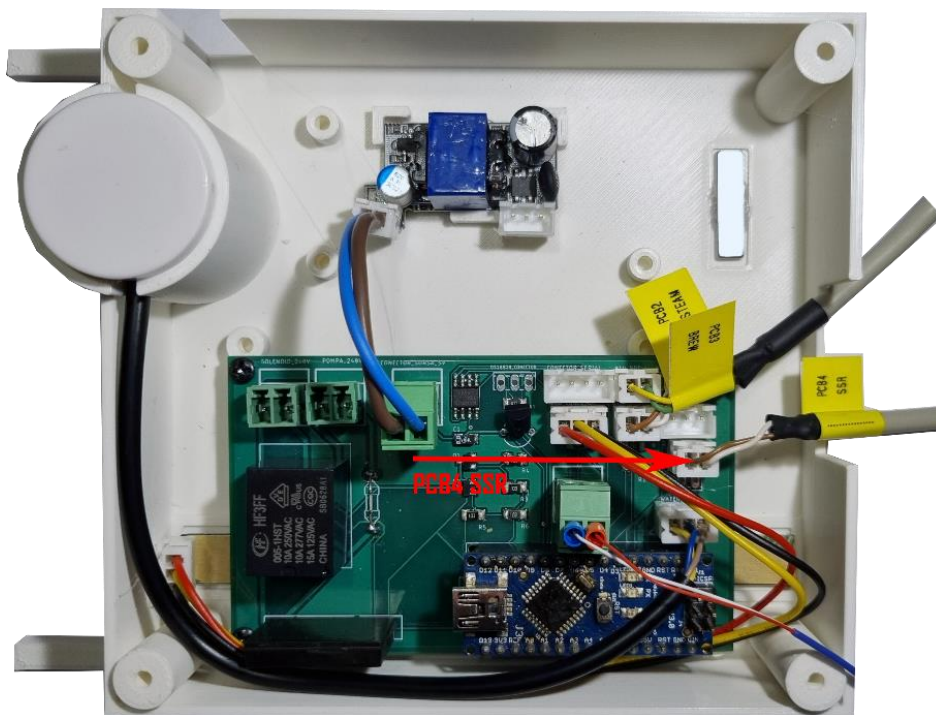

Fig. 6.4
- Plug in the SSR CABLE -5V+ - PCB plug (PCB4 SSR) and let the rest of the cable outside the case through the big hole (fig. 6.4)